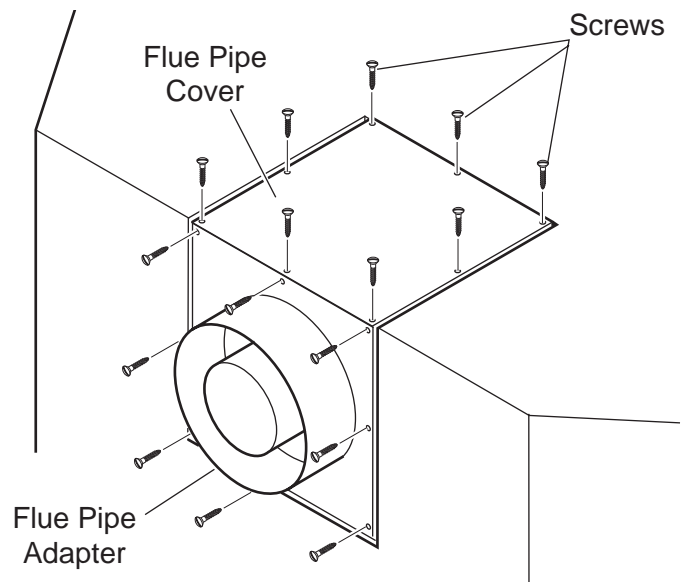

Figure 8 - Removing sixteen (16) Screws from Flue Pipe Adapter and Flue Pipe Cover
1. Remove the eight (8) screws securing the flue pipe adapter to the fireplace body. *See Figure 8.*
3. Remove the eight (8) screws securing the flue pipe cover to the top of the intake box and remove the cover and gasket. *See Figure 8.*